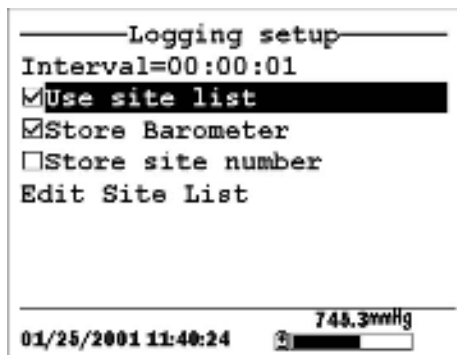

Figure 9.6 Logging Setup Screen
3. Press the **Enter** key. A check mark is entered in the box next to the use site list selection *and* two new entries appear on the logging setup screen. See Figure 9.6 Logging Setup Screen.
2. Use the arrow keys to highlight the **Edit Site List** selection. See Figure 9.6 Logging Setup Screen.